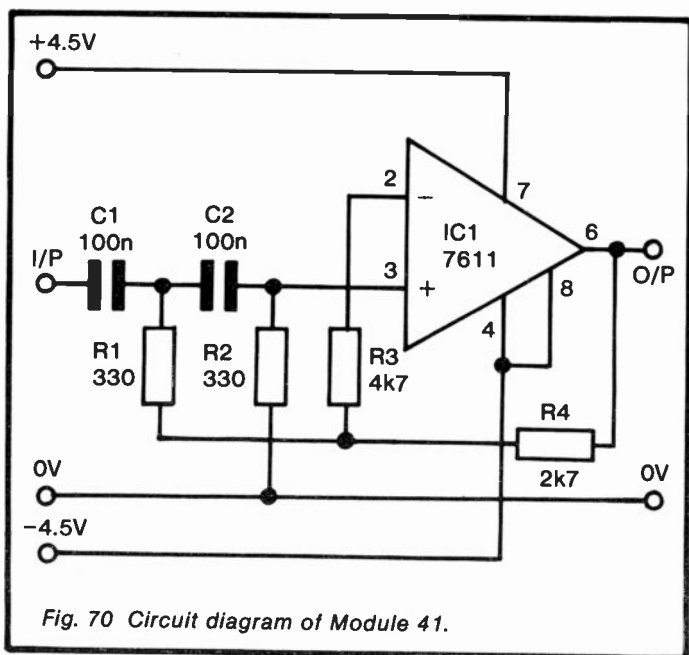

Fig. 70 Circuit diagram of Module 41.
**Circuit diagram:** see Figure 70.